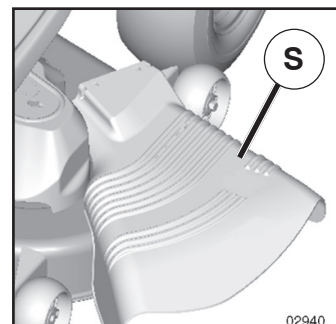

Fig. 21
CAUTION: Do not operate the mower without either the entire grass catcher, on mowers so equipped, or the deflector shield (S) in place (See Fig. 21).